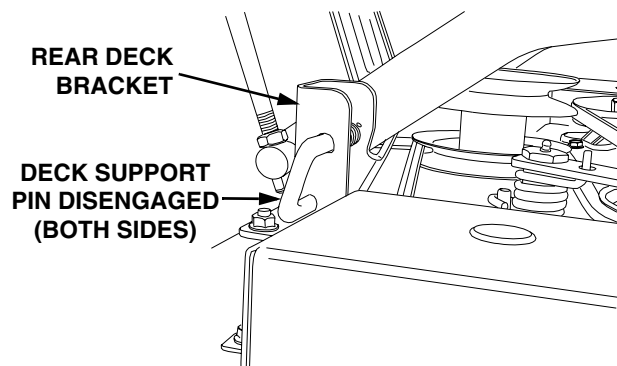

Figure 39
6. Pull the deck support pins outward, turn downward and release so both spring-loaded pins are held in the disengaged position against the outer surface of the deck brackets (See Figure 39).